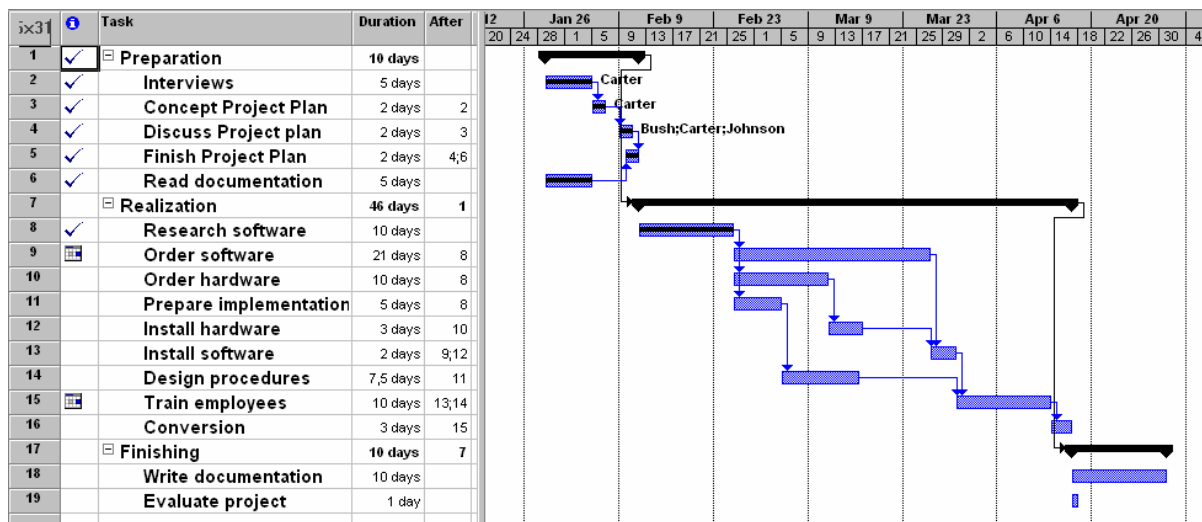

Figure 1 Example of a Gantt Chart
Shown in Figure 1 is an example of a project plan made using MS Project.
The right-hand side of Figure 1 shows a “Gantt chart”, so named after its creator. This planning technique is also known as a Bar Chart. The lengths of the bars indicate the duration of a task, while the arrows indicate the previous task or tasks. Tasks can be indented to form groups. Tasks 2 to 6 fall under the “Preparation” group, for example.
- Fill in the "Task" and "Duration" columns for the first 19 tasks shown in Figure 1.
- Enter the identification number of the predecessor task for each task in Figure 1. This creates a **link** (task dependency) between the tasks.
- One way of inserting a task is to use the Insert key on your keyboard. Insert the "Test software task between tasks 13 and 14 in Figure 1.
To keep a project easy to navigate and to create structure, tasks that belong together are placed in groups. See, for example, the “Preparation”, “Realization” and “Finishing” tasks in Figure 1.